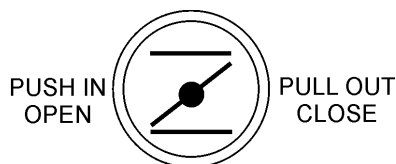

Figure 13. Choke Knob
4. Place the choke knob (Figure 13) in the **CLOSED** position if starting a cold engine.
5. Place the choke knob (Figure 13) in the **OPEN** position if starting a warm engine or the temperature is warm.
9. If the engine has started, slowly return the choke lever (Figure 13) to the **OPEN** position. If the engine has not started repeat steps 1 through 8.